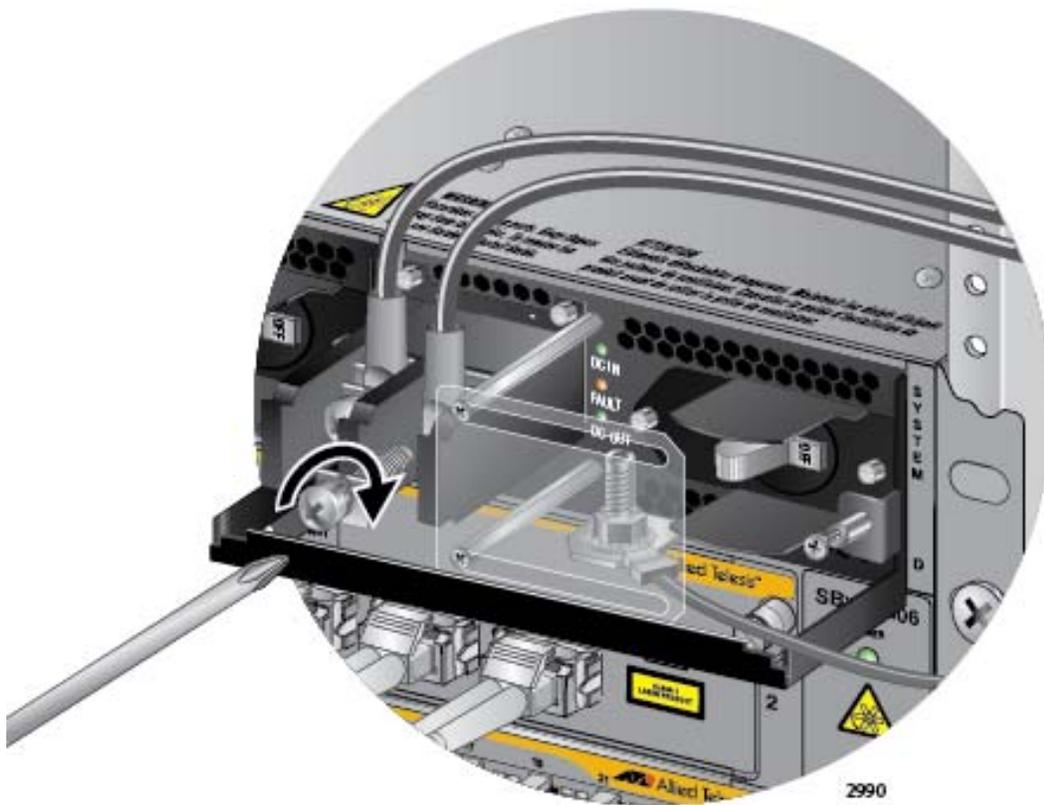

Figure 119. Connecting the Negative (-) Power Wire with a Straight Terminal
7. With a #3 Phillips-head screwdriver, connect the negative (-) power lead wire to the negative terminal on the power supply, with the remaining terminal screw removed in step 5. The negative terminal is on the right. You may attach the terminals with the wires either above or below the terminal block. Figure 119 on page 164 shows the wires above the terminal block.